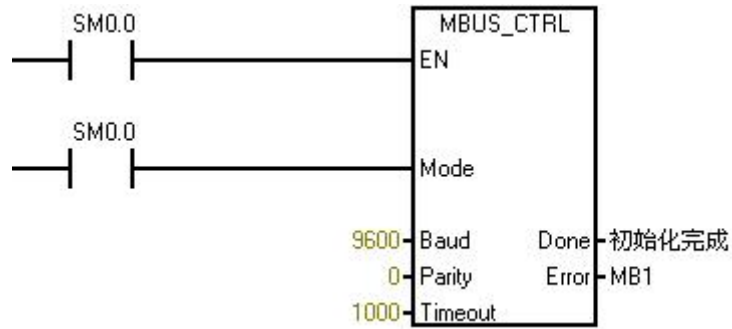

Figure F3-2 Initializing MODBUS
Step 2: Use MBUS_CTRL initializes the MODBUS function of the PLC. As shown in Figure F3-2: